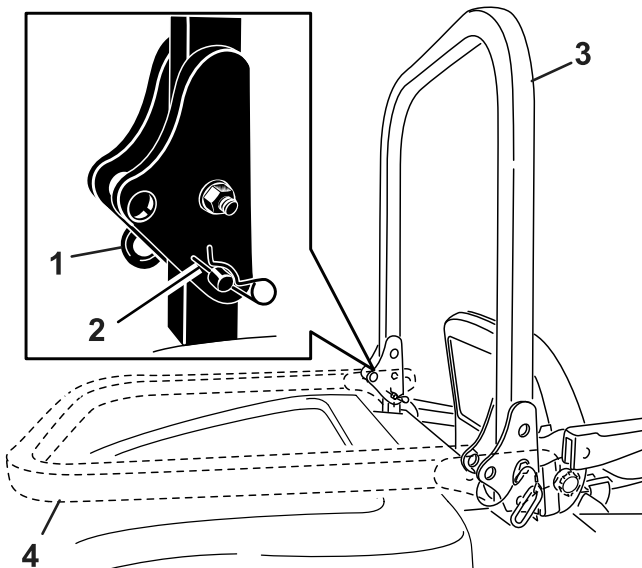

Figure 23
2. With the roll bar in the raised position, remove the hairpin cotters and the 2 pins (Figure 23).